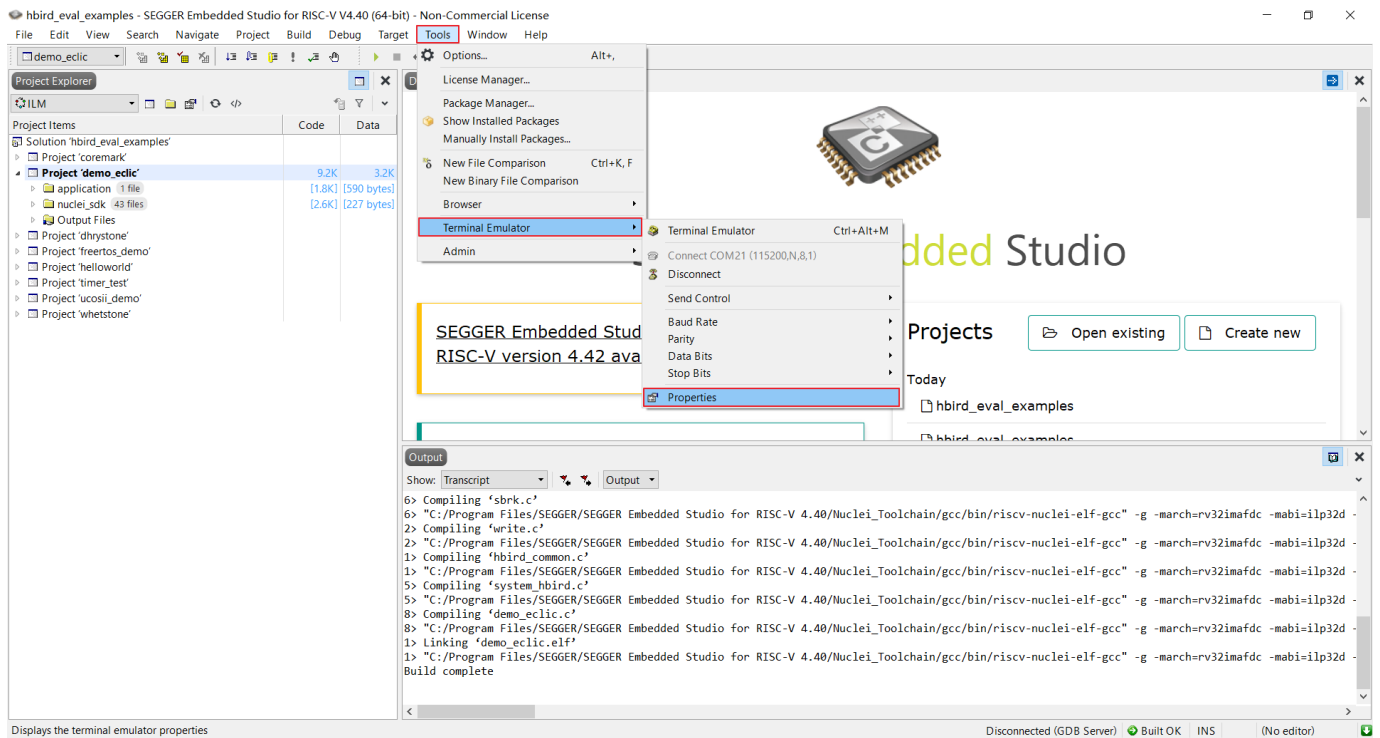

Figure 4-9 Open the Serial Port Setting Pop-up Window
- As shown in Figure 4-9, select "Tools - > Terminal emulator - > Properties" in the menu bar to open the Serial Port setting pop-up window.